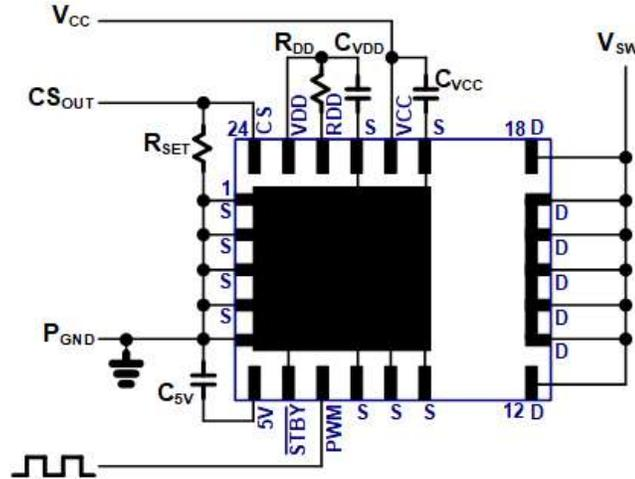

Fig. 20. IC connection diagram
The typical connection diagram for this GaN Power IC is shown in Fig. 20. The IC pins include drain of the GaN power FET (D), source of the GaN power FET (S), IC supply ( $V_{CC}$ ), gate drive supply ( $V_{DD}$ ), gate drive turn-on control SET input ( $R_{DD}$ ), PWM input (PWM), separate signal GND, current sensing output (CS), auto-standby mode input ( $\overline{STBY}$ ), and 5V output (5V). The Source pad and Source pins (S) should all be connected to the system  $P_{GND}$ . The Source pins (S) should each be connected externally to the Source pad directly underneath the IC. The Drain Pins (D) should all be shorted together by copper in the layout (see section 9). The external components around the IC include  $V_{CC}$  filter capacitor ( $C_{VCC}$ ) connected between  $V_{CC}$  pin and Source (S) pin,  $V_{DD}$  filter capacitor ( $C_{VDD}$ ) connected between  $V_{DD}$  pin and Source (S) pin, turn-on dV/dt set resistor ( $R_{DD}$ ) connected in between  $V_{DD}$  pin and  $R_{DD}$  pin, a current sense amplitude set resistor ( $R_{SET}$ ) connected between CS pin and Source (S), and auto-standby mode pin ( $\overline{STBY}$ ) connected to Source (S). An external capacitor ( $C_{5V}$ , 0.01 $\mu$ F max) is required between pin 5V and S. This 5V pin is for internal purposes only and must not be used for biasing external circuitry.